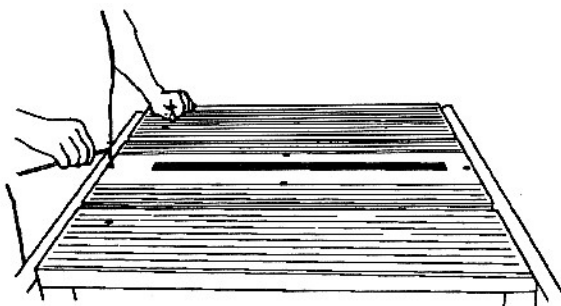

Fig. 36
47. Use a 5/32" Allen wrench to remove the four setscrews (4) in the table insert (3), as illustrated in Fig. 36. Remove the table insert. Then lower the motor all the way down by turning the height adjustment handle counter-clockwise. Loosen the bevel lock, move the carriage to "0" on the scale, then re-tighten the bevel lock.